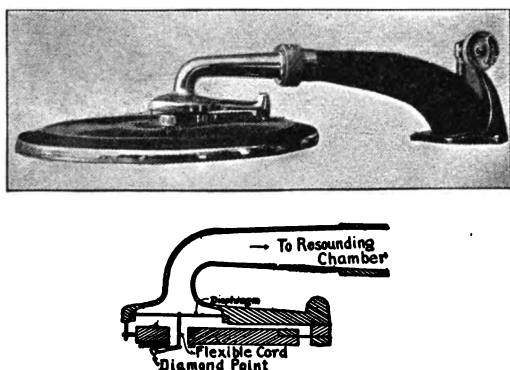

FIG. 164.—PHONOGRAPH WITH HORIZONTAL DIAPHRAGM
**192. Phonograph.** In the phonograph (Fig. 164) we have an instrument that reproduces sounds by mechanical means. This is brought about through a diaphragm placed over the small end of a tapering tube. Records of the sound waves